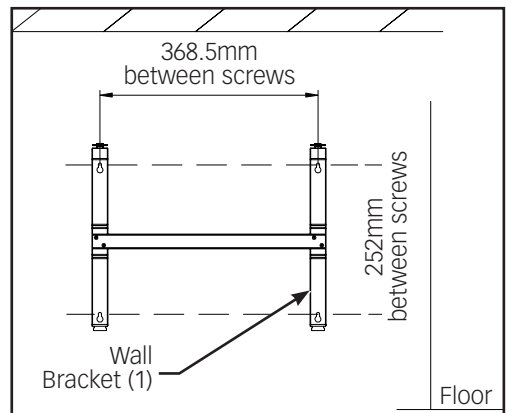

Fig. 2
- Refer to Figure 2 for guidance.